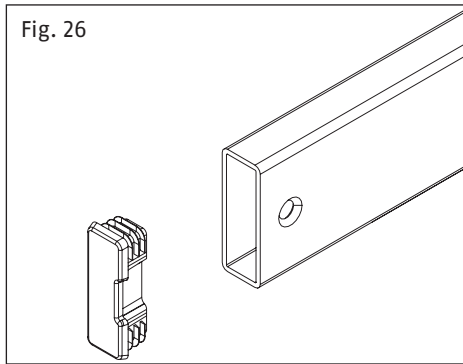

Fig. 26
4. The door bar can also be incorporated into the wall instead of fitting the lock case. In this case, the cover for the hole in the wall **PWA2700** (Fig. 26 - 29) can be used.
- When using the **PWA2700**, first remove the plastic plug from the door bar casing (if necessary lever through the small hole with a screwdriver / Fig. 26).